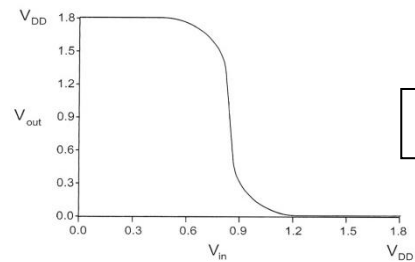

Fig. 7
- Sketch on Fig. 7 and define the following terminologies based on unity-gain point. (10%)